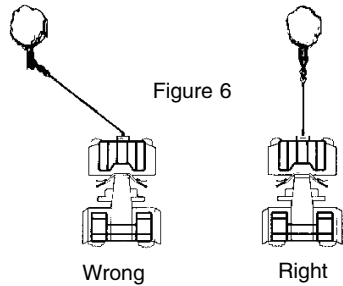

Figure 6
- 13 .AVOID CONTINUOUS PULLS FROM EXTREME ANGLES as this will cause the wire rope to pile up on one end of the drum (Figure 6). This can jam the wire rope in the winch, causing damage to the rope or the winch.